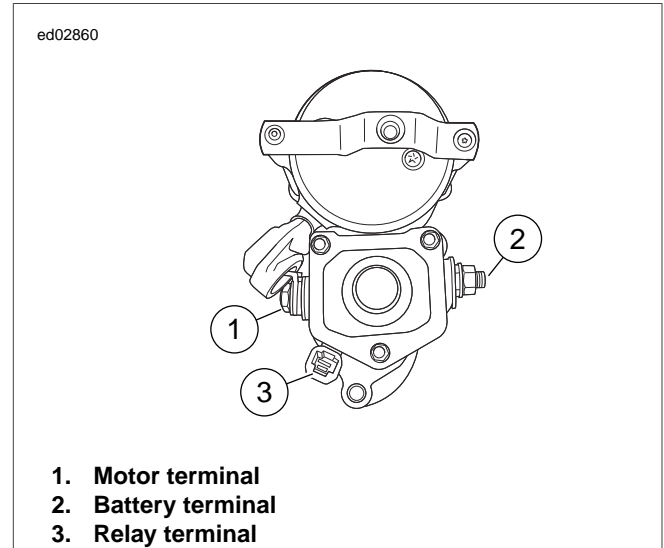

Figure 1-1. Starter Terminals
1. See Figure 1-1. Test for voltage drops under 3.12 BREAKOUT BOX: TSM/HFSM.